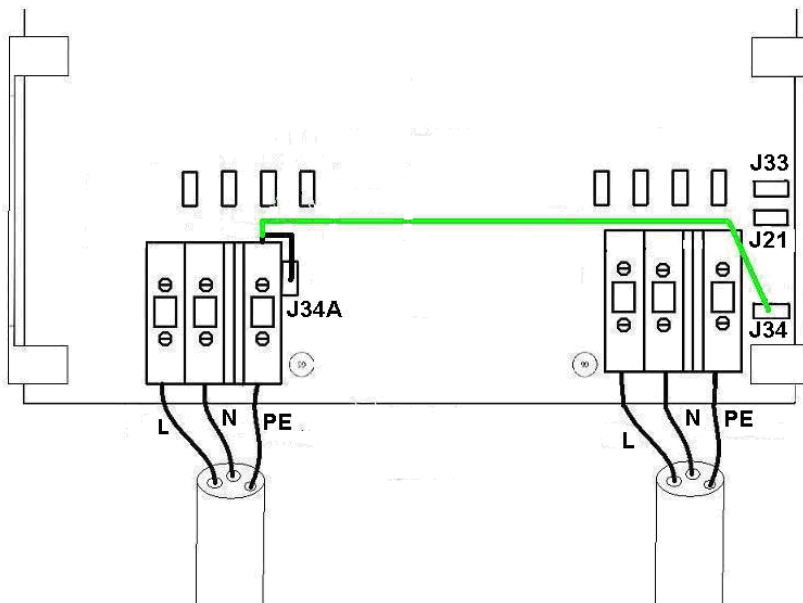

Figure 4: Input earth connection
2.3 Input earth connection (fig 4)
- If the boat is floating, connect the PE wire coming from the input PE terminal to male push-on connector J34A (wire shown in black on fig 4). Now input and output are isolated from each other.
- If the boat is on shore (winter period or maintenance), the PE conductor in the boat must be connected directly to the input PE, for safety reasons. This is achieved by connecting the PE wire coming from the input PE terminal to male push-on connector J34 (wire shown in grey on fig 4).